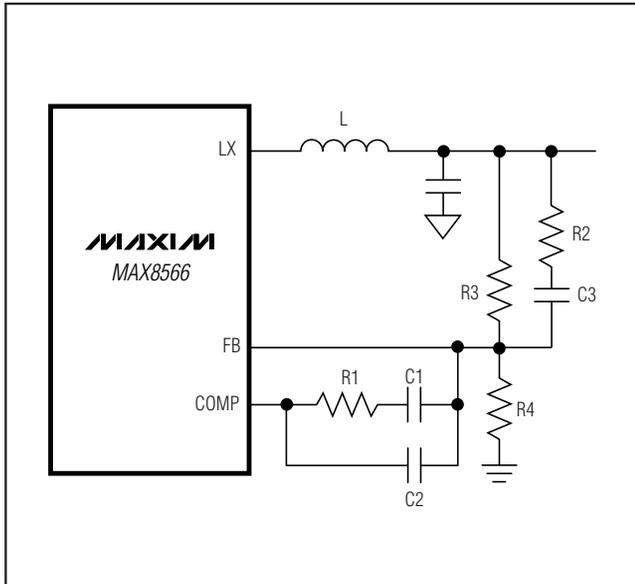

Figure 4. Type 3 Compensation Network
The high switching frequency range of the MAX8566 allows the use of ceramic output capacitors. Since the ESR of ceramic capacitors is typically very low, the frequency of the associated transfer-function zero is higher than the unity-gain crossover frequency, f_C , and the zero cannot be used to compensate for the double pole created by the output filtering inductor and capacitor. The double pole produces a gain drop of 40dB and a phase shift of 90 degrees per decade. The error amplifier must compensate for this gain drop and phase shift to achieve a stable high-bandwidth closed-loop system. Therefore, use Type 3 compensation as shown in Figure 4. Type 3 compensation possesses three poles and two zeros with the first pole, f_{P1_EA} , located at zero frequency (DC). Locations of other poles and zeros of the Type 3 compensation are given by:
Begin by setting the desired output voltage. The output voltage is set using a resistor-divider from the output to GND with FB at the center tap (R3 and R4 in Figure 4). Use 20kΩ for R4 and calculate R3 as: